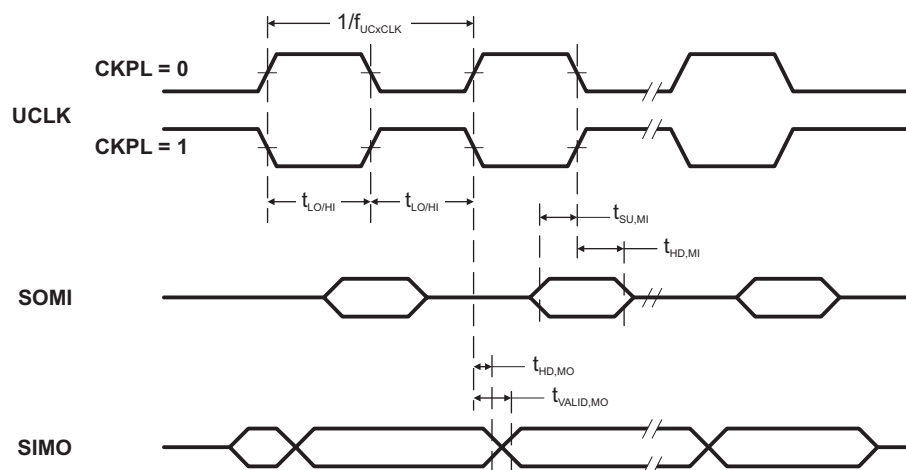
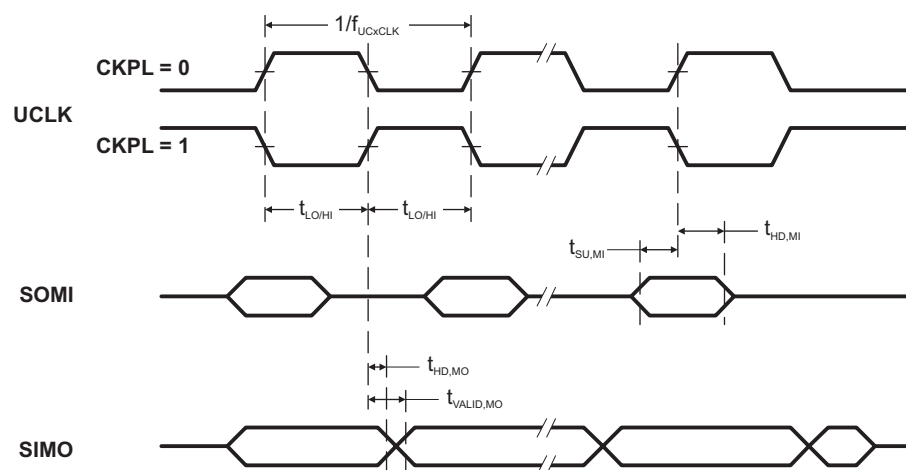

Figure 5-11. SPI Master Mode, CKPH = 0
Figure 5-12. SPI Master Mode, CKPH = 1
(see Figure 5-11 and Figure 5-12)
- (1) fUCxCLK = 1/2tLO/HI with tLO/HI ≥ max(tVALID,MO(USCI) + tSU,SI(Slave), tSU,MI(USCI) + tVALID,SO(Slave)). For the slave parameters tSU,SI(Slave) and tVALID,SO(Slave), see the SPI parameters of the attached slave.
- (2) Specifies the time to drive the next valid data to the SIMO output after the output changing UCLK clock edge. See the timing diagrams in Figure 5-11 and Figure 5-12.
- (3) Specifies how long data on the SIMO output is valid after the output changing UCLK clock edge. Negative values indicate that the data on the SIMO output can become invalid before the output changing clock edge observed on UCLK. See the timing diagrams in Figure 5-11 and Figure 5-12.